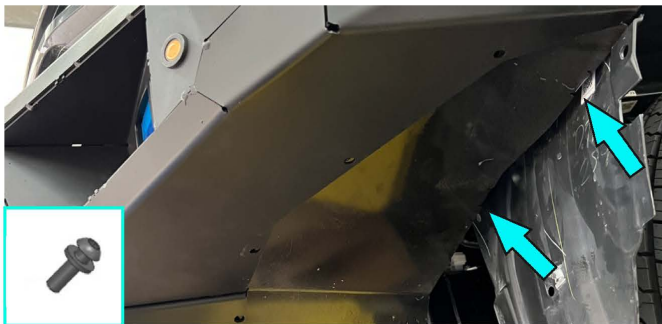

Fig.60
60. Mark and drill 2 holes in plastic fender according with holes in flap on each side of the vehicle. Fix flaps and fenders using screws M6x20, washers 6 (item A, I) (fig. 60).